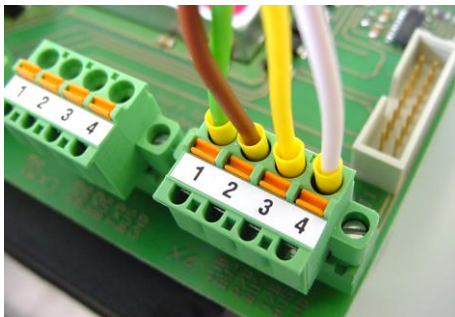

Fig.80: Connecting the bus cables
1. Connect the conductors of the bus cables according to Fig.80. For details refer to the respective terminal diagrams.